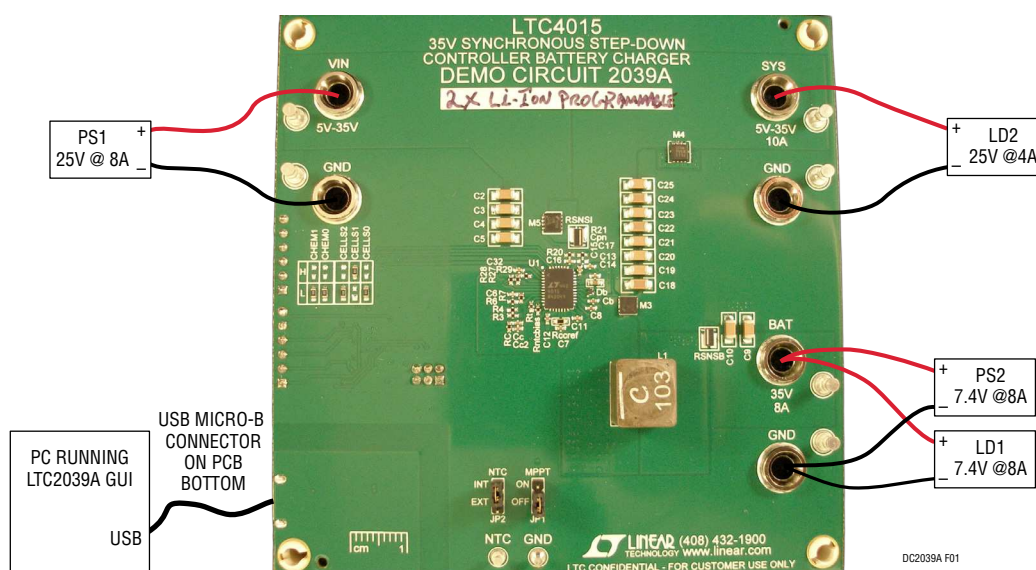

Figure 1. Test Setup for the DC2039 Demo Board
Refer to Figure 1 for the proper measurement equipment setup and jumper settings. Please follow the procedure below to familiarize yourself with the DC2039A.
1. Update to the latest version of QuikEval™ and start QuikEval on the PC. Plug the Micro-B connector on DC2039A board directly into the PC, with the appropriate USB cable, as shown in Figure 1.